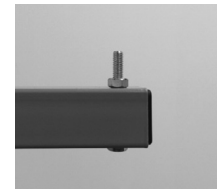

Fig 12
1. These is a 6.35mm (1/4") hole drilled through the end of each horizontal bar (1). This hole can be used to secure some form of material stop at the end of the shelf if you are loading pipes, tubes or cylindrical items onto the shelf.
- a. This material stop can be achieved by inserting a 1/4" bolt (not supplied) through the horizontal bar (1) and securing it with a nut (not supplied) allowing the remainder of the bolt thread to be used as a material stop (fig12).